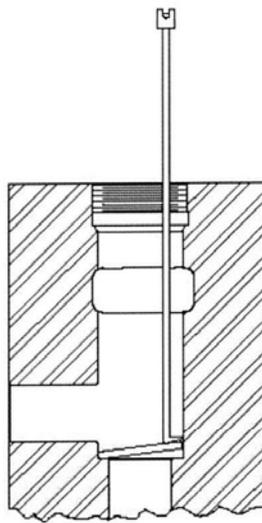

Figure 11
3. Place new seal in cylinder bore and push to bottom with hook. Gently tamp the seal into the bottom of the bore. (See Figure 11, page 43).